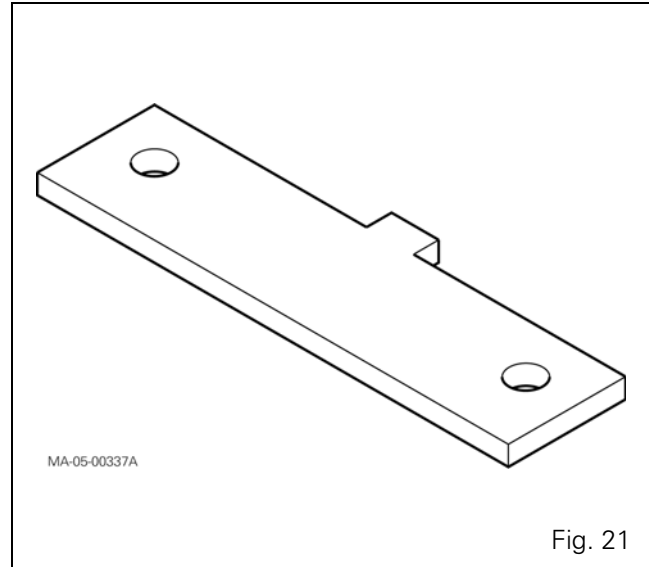

Fig. 21
- **3378240 M1:** - Planet carrier immobilising tool (Fig. 21)